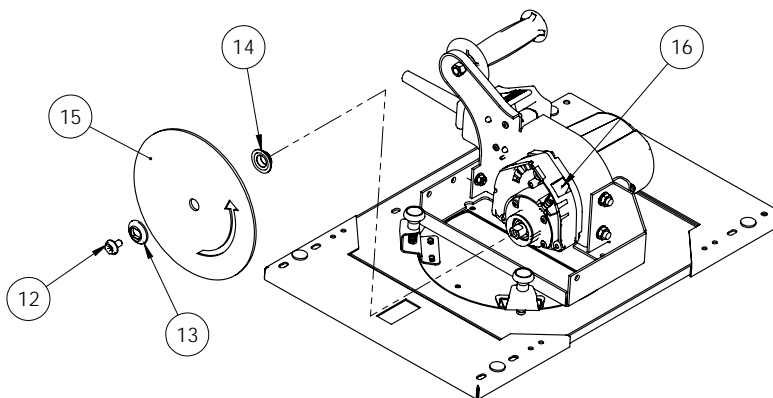
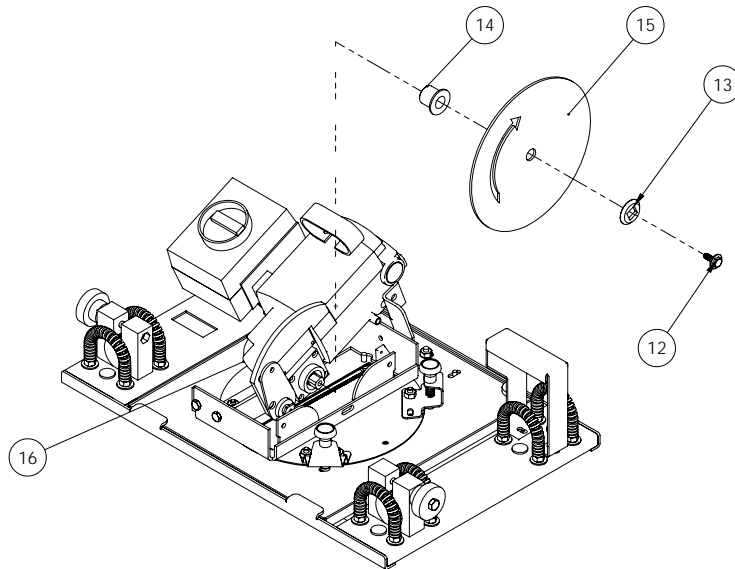

Figure 41: Installing a Saw Blade (SR5 & SR5A)
Figure 42: Installing a Saw Blade (SR5U & SR5UA)
4. To keep the spindle from turning while you loosen the arbor bolt (SR5 & SR5A Fig. 41, #12) or (SR5U & SR5UA Fig. 42, #12) push the spindle lock (#16) located on the under-side of the saw motor Fig. 42 (SR5U & SR5UA) or on top of the motor housing Fig. 41 (SR5 & SR5A).
5. Use the 6mm hex wrench (SR5 & SR5A) or ½” wrench (SR5U & SR5UA) provided with the saw to loosen and remove the spindle bolt (Fig. 41, #12, **counterclockwise** SR5 & SR5A) or (Fig. 42, #12 **clockwise** SR5U & SR5UA), while holding the spindle lock.
6. Remove the outer blade flange (Fig. 41 or 42, #13), blade (#15), and inner blade flange (#14).